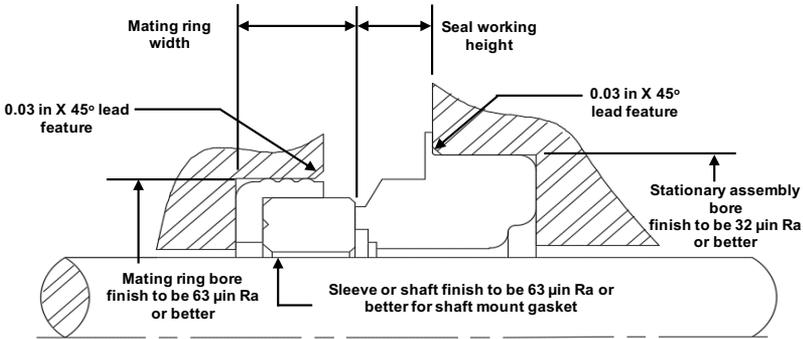

Figure 2: Seal chamber requirements
- 1.4 Check shaft or pump sleeve outer diameter, seal working height, mating ring width, mating ring bore and stationary assembly bore to ensure they are dimensionally within the tolerances shown on the seal assembly drawing. See Figure 2.
- 1.6 Check equipment requirements as described in Figure 2. Any measurement different than what is allowed must be brought within specifications.